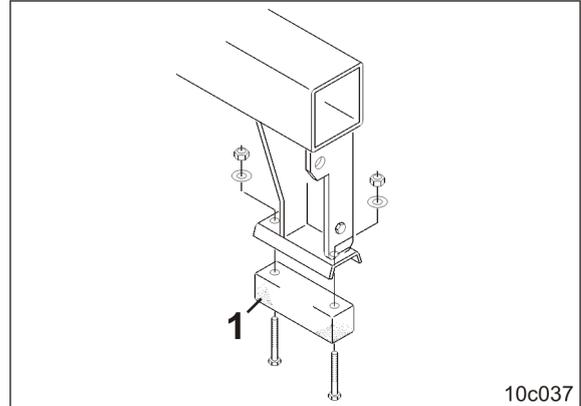

Fig. 104
- two plastic supports (Fig. 104/1) and